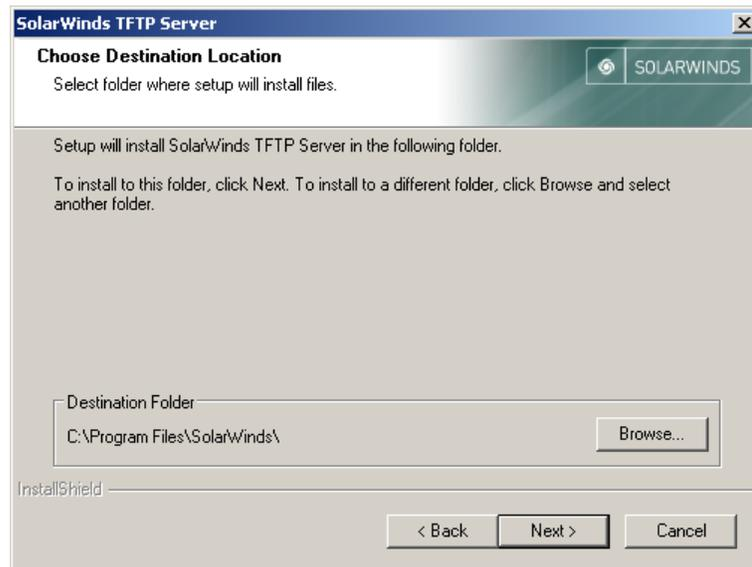

Figure C-8: Choose Destination Location
9. Choose the default Destination Folder (Figure C-8), **C:\Program File\SolarWinds**. Select **Next** to install the package.